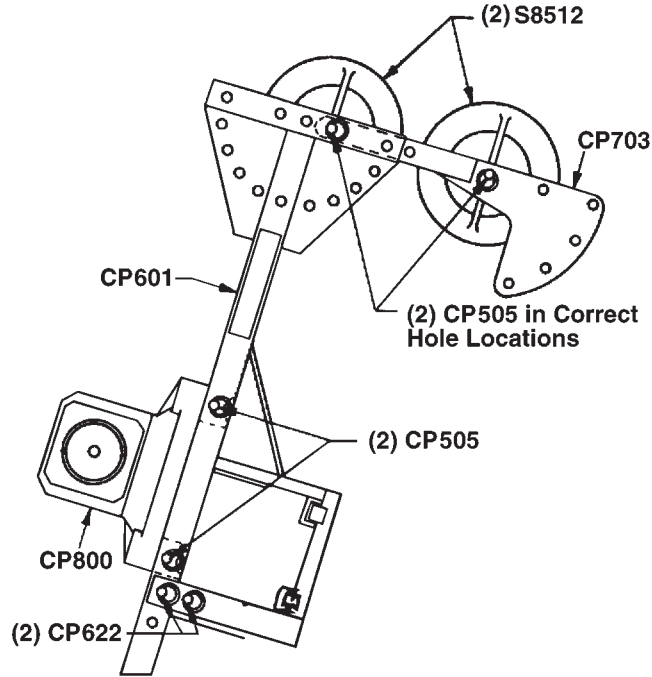

Figure 8
- 1) The adjustable pipe adaptor is used with the CP601 conduit frame adaptor. Install by inserting the CP703 pipe adaptor into the conduit frame adaptor. The legs must be inserted until end hole is aligned with the hole closest to the frame adaptor cross member. See figure 8.